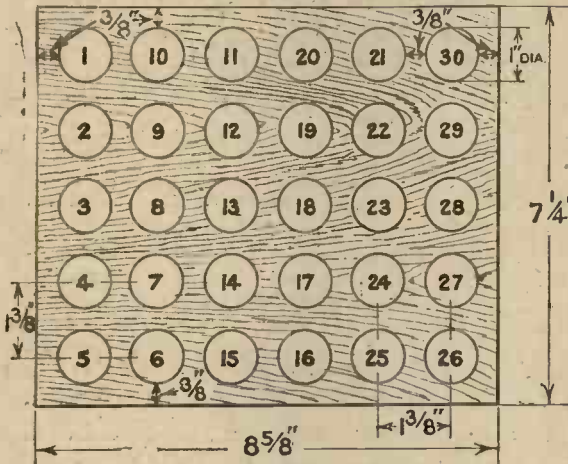

Fig. 3.—Details of the lid of a battery box for 30 cells are shown above.
shown in Fig. 4. Wood  $\frac{1}{4}$  in. thick should be employed, the best kind being teak; and in order to keep the glass containers in position, a top for the box must be made in the form indicated in Fig. 3. The rectangular piece of wood has the dimensions  $8\frac{1}{2}$  in. by  $7\frac{1}{4}$  in. by  $\frac{1}{4}$  in., so that it can just fit inside the box, being finally held in position by wood screws. The layout of the holes, which must be carefully drilled, gives the unit a symmetrical appearance. The diameter of the holes is given as 1 in., but this can be slightly
separator, the larger cylinder then fitting into the glass tube in the position marked (2) (see Fig. 3).
Repeat the same operation of adding separators and units similar to Fig. 2, following the numbers (1) to (30), as marked in Fig. 3. The negative plate of position (30) should be provided with a lead extension strip similar to the positive plate of position (1), by cutting away the A portion to add to the length B. Thus altogether 31 complete double